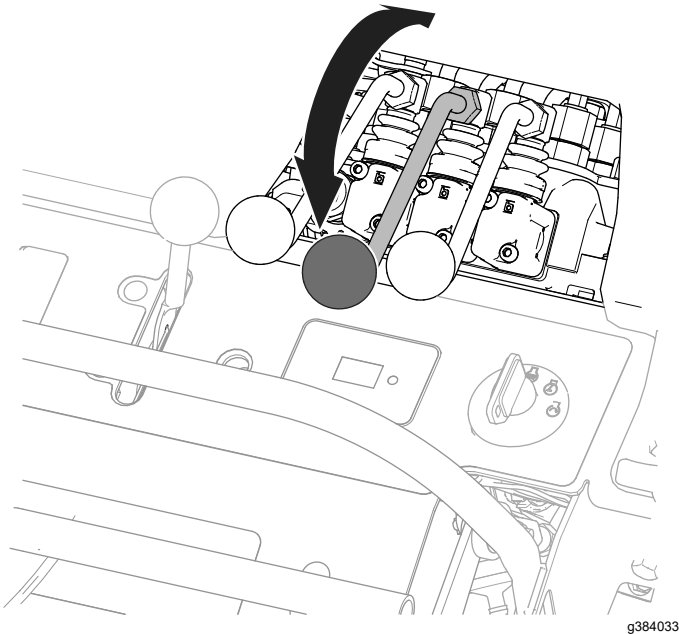

Figure 3
6. Move the mid-mount attachment control forward and backward to relieve hydraulic pressure (Figure 3).